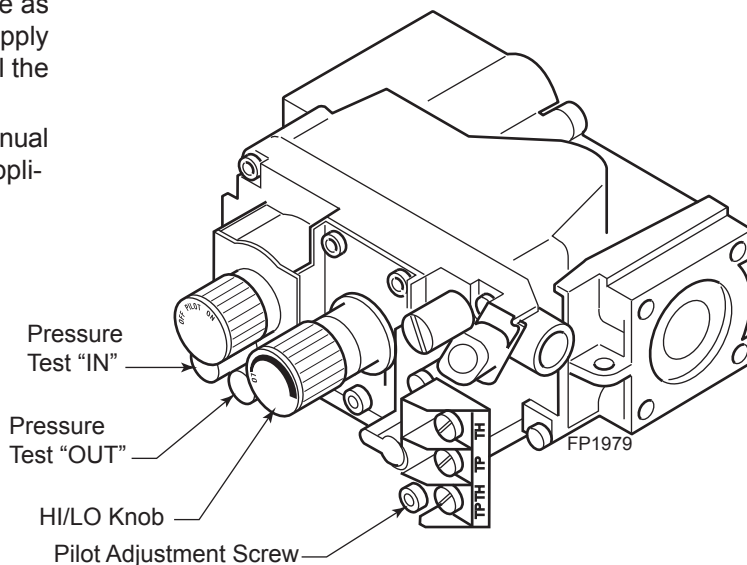

**Figure 47 -
5. To check gas pressures at valve, turn captured screw counter clockwise 2 or 3 turns and then place tubing to pressure gauge over test point. Turn unit to high. *Figure 47.* After taking pressure reading, be sure and turn captured screw clockwise firmly to reseal. Do not over torque. Check test points for gas leaks.